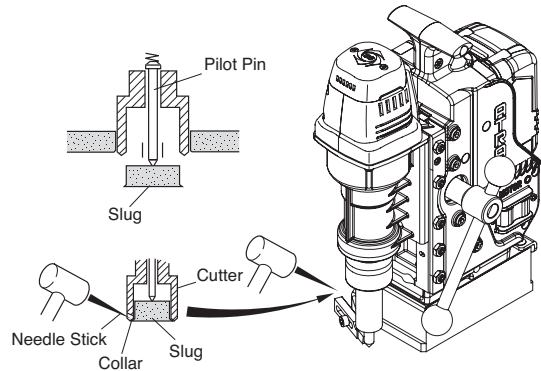

Fig. 31
**(10) Removing slug (Fig. 31)**